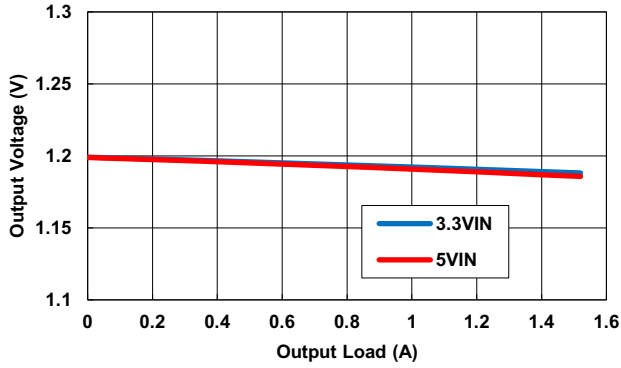

Figure 12. V_{OUT} Regulation vs Load, $V_{OUT2} = 1.2\text{V}$, $T_A = +25^\circ\text{C}$
11. Not tested in production. Characterized using evaluation board. Refer to load regulation diagrams (Figures 12 through 15). +105°C T_A represents near worst case operating point.